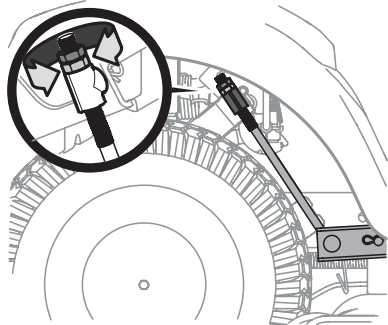

Figure 37
3. Under the rear fenders inside the wheels there is a lift adjustment rod for each side of the deck. See Figure 37.